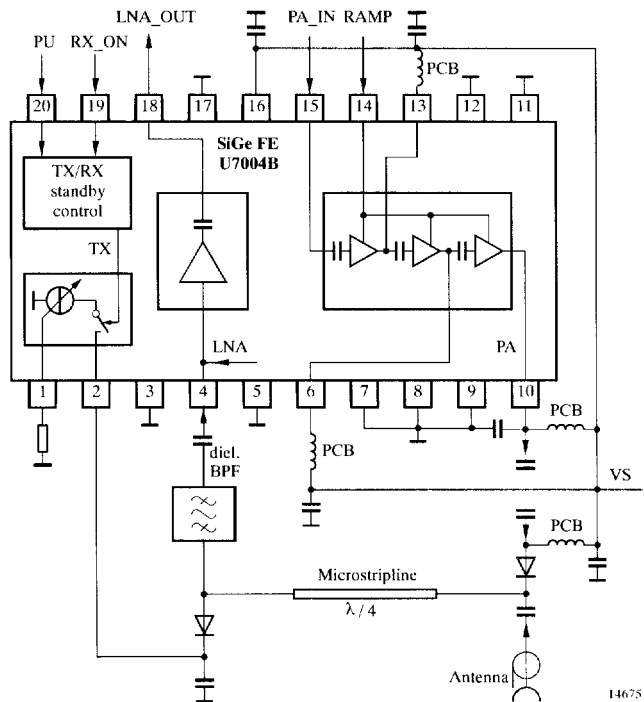

Figure 13. Typical schematic
- 2) With external matching network (see figures 13 and 14)